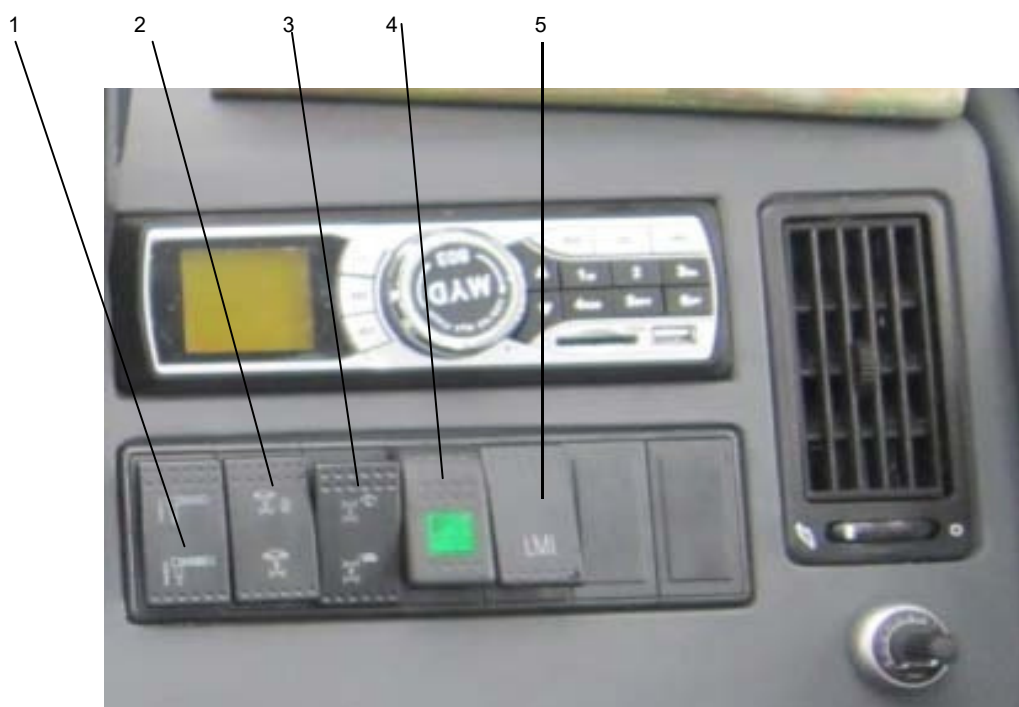

Figure 06 – 3 Right Dash
11. CAB HEATER POWER SWITCH – Used to turn on the cab heater. The controls to adjust heat are on the AIR CONDITIONER CONTROL PANEL (5) (See Figure 06 – 1).
1. OUTRIGGER EXTEND / RETRACT MASTER SWITCH – Used with switches (12, 13, 15, 16 in Figure 06 – 1) to extend and retract the outrigger beams and jacks. Push down to retract, up to extend.